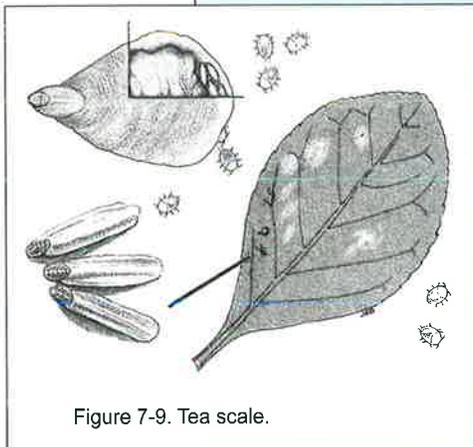

Figure 7-9. Tea scale.
**Life Cycle:** Tea scale females have flat, hard, brown armor. The armor is oval or canoe-shaped and is about 1/16 inch long. Male armor is soft, white, and narrow with a ridge down the middle of the top. Each female lays 10 to 15 eggs under her armor. The first stage is a flat, yellow "crawler" that migrates to the newer leaves and soon settles down to feed (Figure 7-9). Male tea scales sometimes produce noticeable white fluff under the leaves of camellias and Chinese hollies. Crawlers hatch throughout the year, although less frequently in cold than in warm weather.